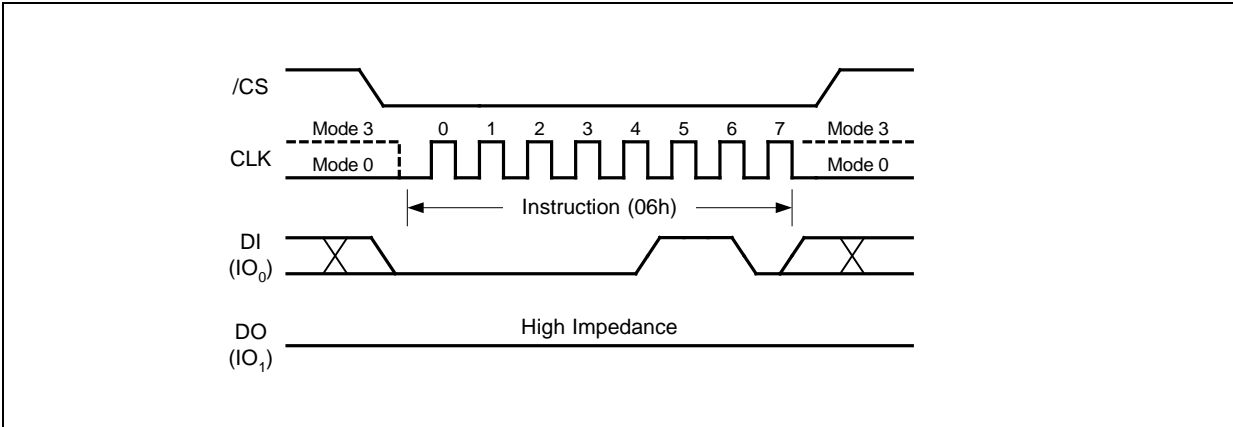

Figure 4. Write Enable Instruction
The Write Enable instruction (Figure 4) sets the Write Enable Latch (WEL) bit in the Status Register to a 1. The WEL bit must be set prior to every Page Program, Quad Page Program, Sector Erase, Block Erase, Chip Erase, Write Status Register and Erase/Program Security Registers instruction. The Write Enable instruction is entered by driving /CS low, shifting the instruction code “06h” into the Data Input (DI) pin on the rising edge of CLK, and then driving /CS high.